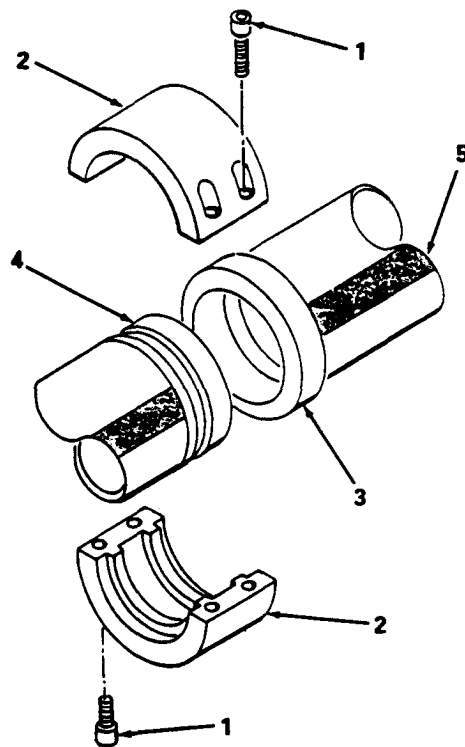

Figure 2-13. Removal and Installation of Coupling Rings.
b. Use of Coupling Rings. The coupling ring is used as follows (figure 2-13):
- (1) Using T handle hex key from repair kits, remove four screws (1) to open coupling ring halves (2).
- (2) Slide gasket (3) onto grooved connector so that seal is flush with end of connection.
- (3) Align connectors (4), slide gasket (3) over joint and center it in place. Ensure hoseline layline (5) align if applicable.
- (4) Install coupling ring halves (2) and screws (1). Tighten evenly, alternating between screws until ring is secure.